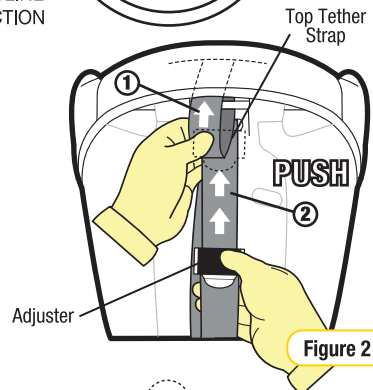

Figure 2
Step 1: Pull excess strap through the top section ① whilst feeding the adjuster section ② towards the restraint (refer Figure 2).